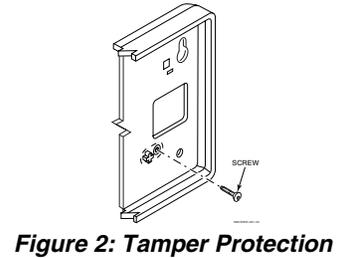

Figure 2: Tamper Protection
- c. If installing a 5881ENHC, install a flat-head screw (supplied) in the case tamper tab as shown in Figure 2. When the receiver is pried from the wall, the tamper tab will break off and remain on the wall. This will activate a tamper switch in the receiver and cause generation of a tamper signal. Note that this signal will also be generated when the receiver's front cover is removed.
1. Mount the rear half of the 5800BOX directly to the wall in the selected location, hinged side up. Secure using the 4 screws provided and insert screw in tamper tab, refer to *Installation*, step 3c and Fig. 2.